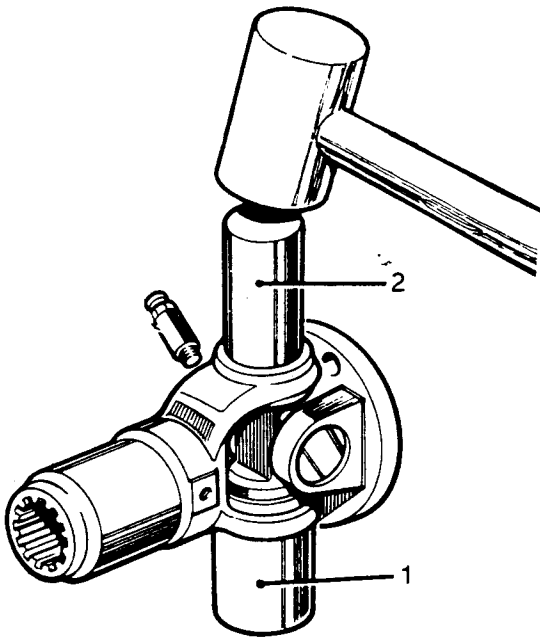

Fig H4.9
- (14) Refer to Fig H4.9. Locate the yoke of the splined sleeve onto a suitable piece of tube (1) which has a slightly larger internal diameter than the journal bearing.
- (15) Using a brass drift (2) drive the universal joint downwards until it is clear of the lower yoke.